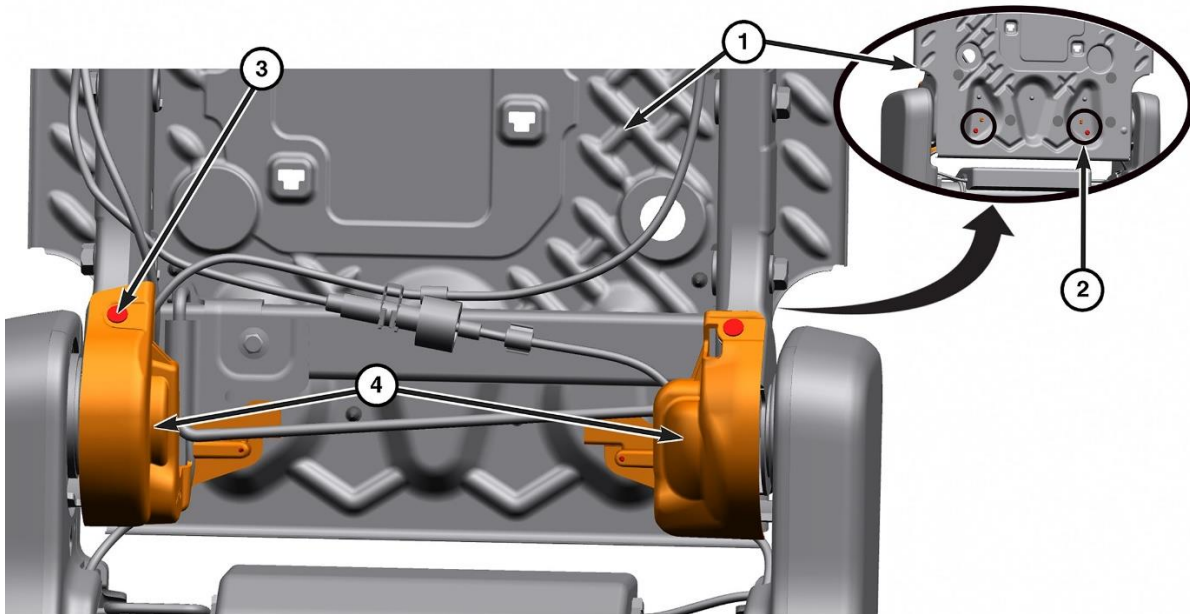

Figure 59 – Hinge Covers
26. Remove the push pins (3) and screws (2) then remove the hinge covers (4) (Figure 59).
54. Position the hinge covers (4) then install the push pins (3) and screws (2) (Figure 59).